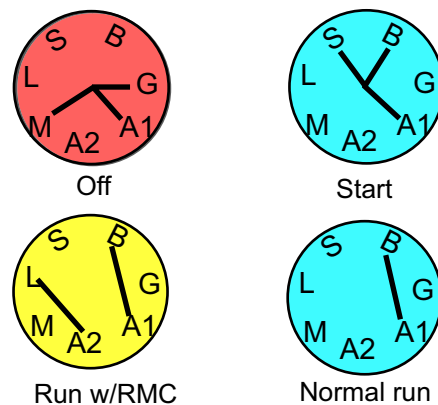

Figure 7.2
1. In the **OFF** position, continuity can be found between the M, G, and A1 terminals. See Figure 7.2.